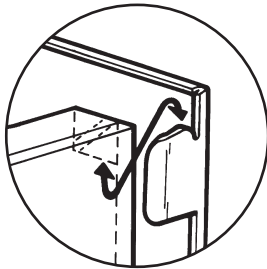

Fig. 93
4. Offer the outer case up to the hooks on the top of the back plate (Fig. 93).